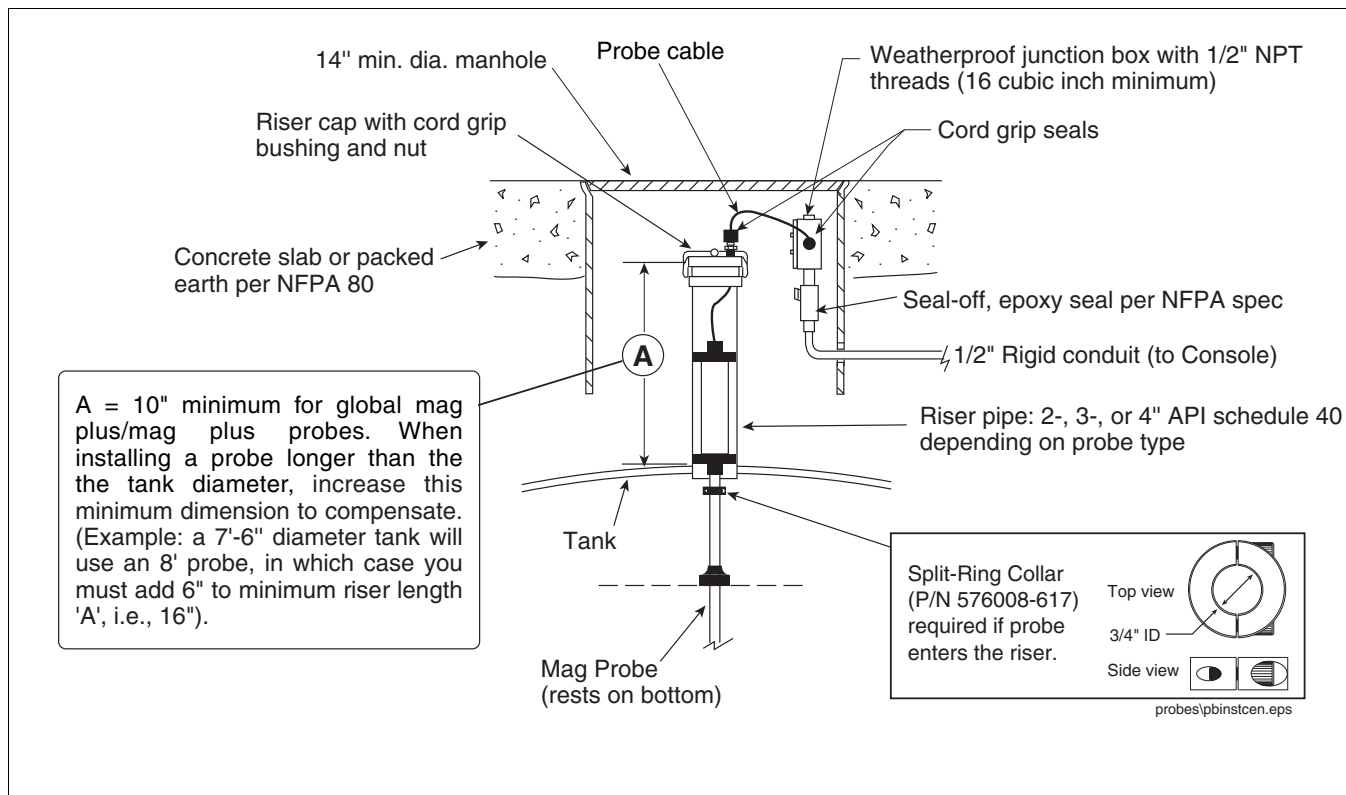
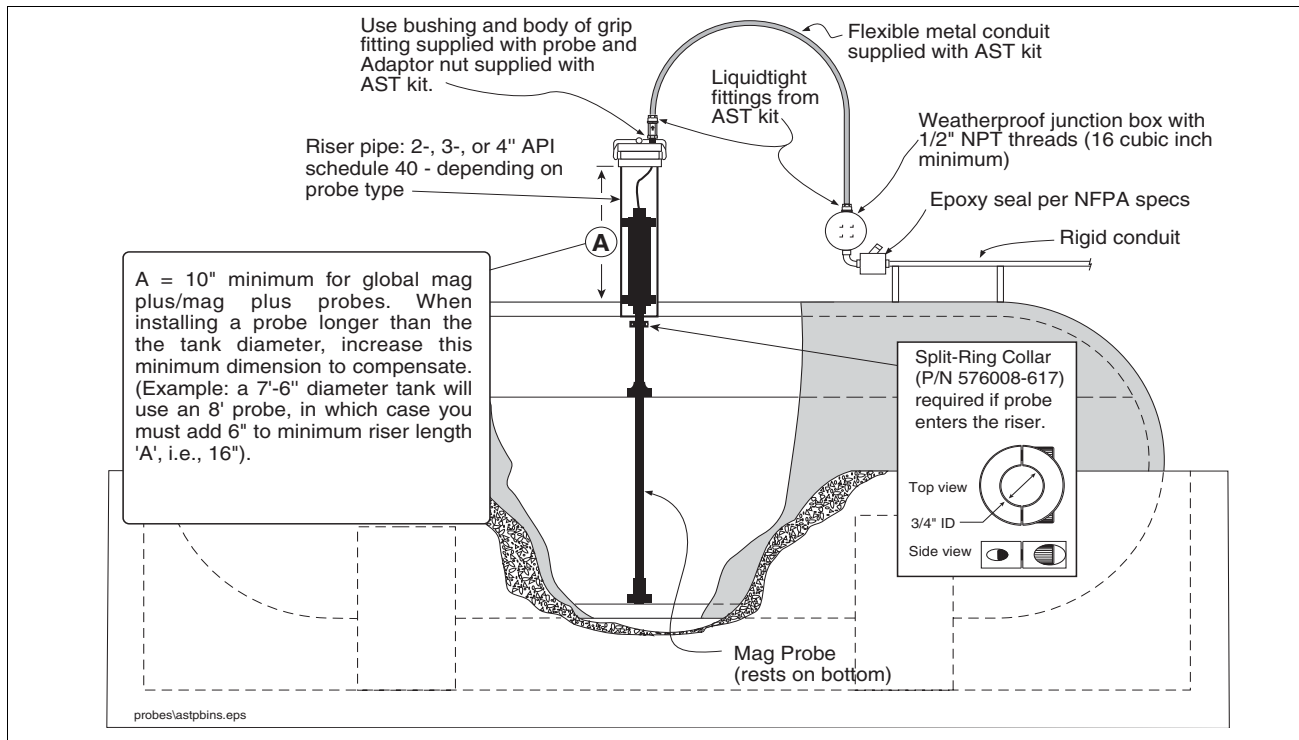

Figure 20. UST Probe Installation - Dedicated Riser
Figure 21. AST Probe Installation - Dedicated Riser
4. Gently slide the float(s) to the bottom of the probe shaft before raising the probe. Carefully lower the probe into the riser pipe until the boot rests on the bottom of the tank [See Figure 20 for UST installation or Figure 21 for AST installation].